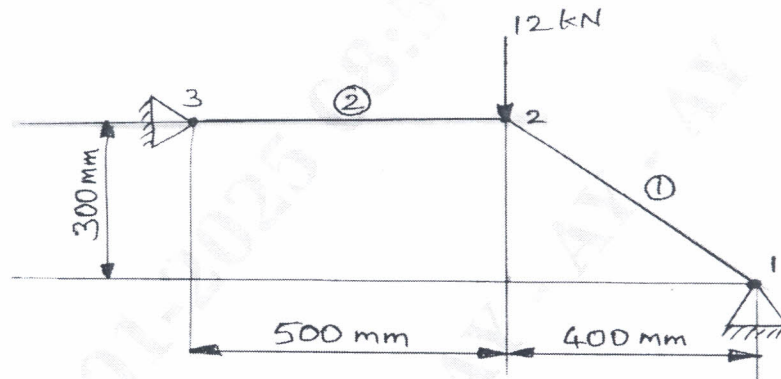

Fig.Q.4(b)
- b. Determine the nodal displacements and stresses in each element for the two bar truss shown in the Fig.Q.4(b). (14 Marks)